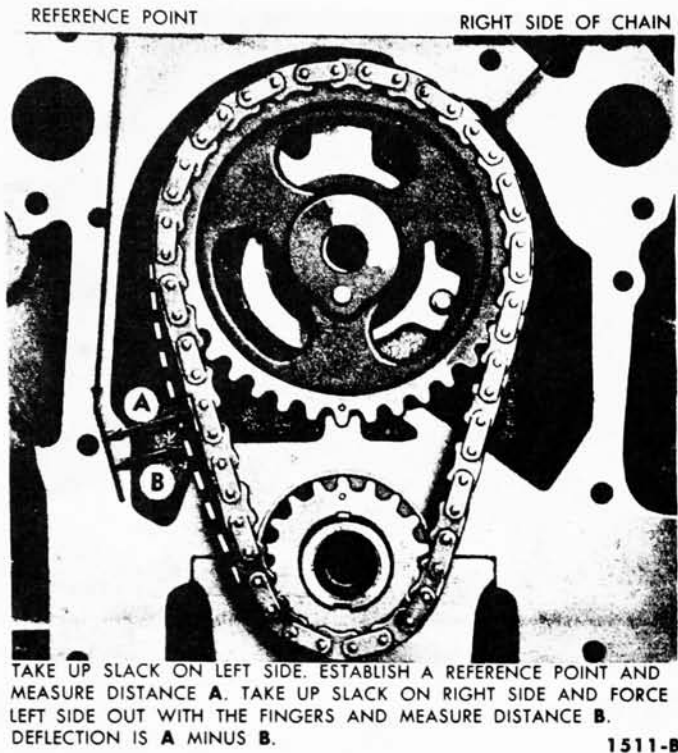

FIG. 44—Timing Chain Deflection
4. Establish a reference point on the block and measure from this point to the chain (Fig. 44). Rotate the crankshaft in the opposite direction to take up the slack on the right side of the chain, then force the left side of the chain out with the fingers and measure the distance between the reference point and the chain. The deflection is the difference between the two measurements.